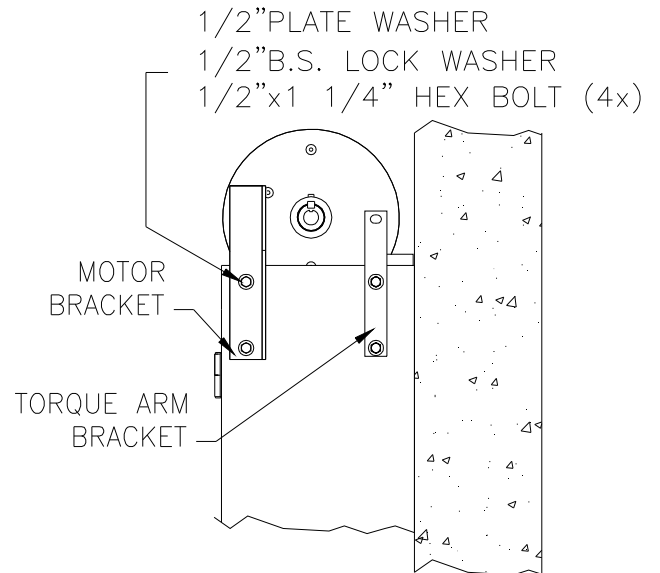

FIG. 7A
a. **Attach Motor Brackets** to electrical Upright (Figure 7a).